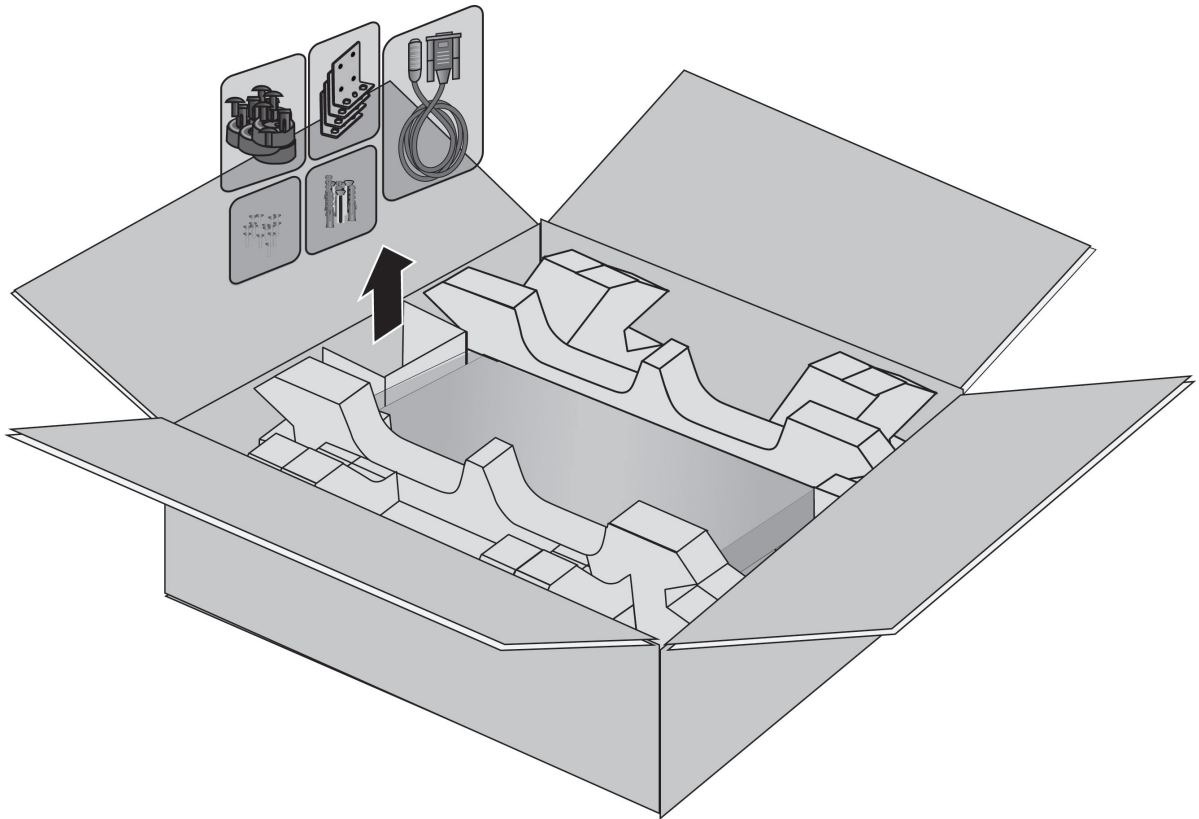

Figure 48. Removing Accessories
1. Remove the accessories and documents from the accessory partition. Refer to Figure 48.